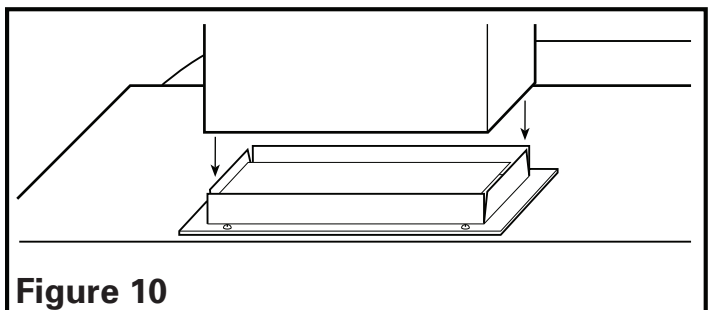

Figure 10
1. Connect the ducting to the hood's duct collar and damper. Secure in place using tape to seal all joints (**Figure 10**).